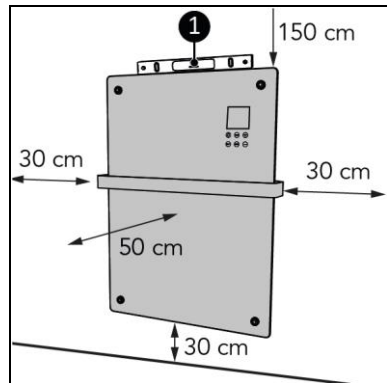

Figure 8
5. Place the device on a vertical and solid surface. Use a spirit level when placing the device (Figure 8, pos. 1).
6. Place the device with a minimum distance (Figure 8) of: